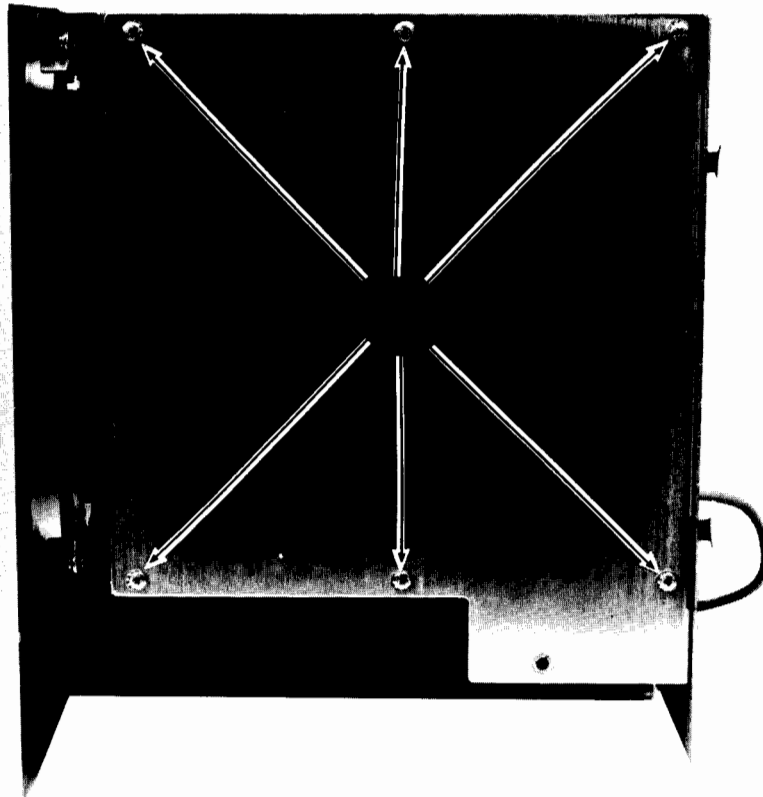

Figure 4-11. 9836A CRT/High Voltage Cover Fasteners
2. Turn the six quarter-turn fasteners (shown in Figure 4-11) one-quarter of a turn counterclockwise with a #1 pozidriv. Then lift the CRT/High Voltage Cover straight up.